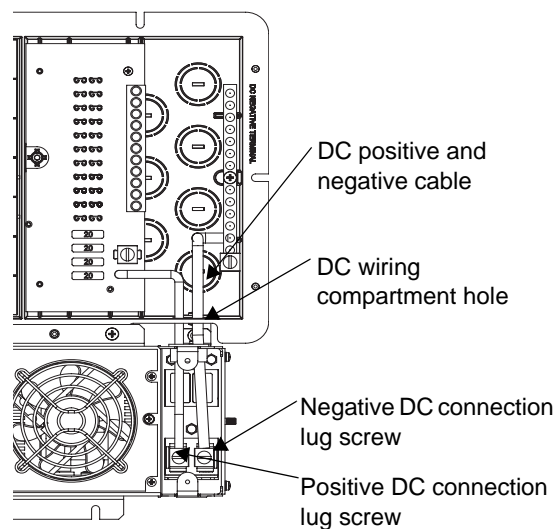

Figure 15 Connecting Panel to XADC DC Side
2. Loosen the positive and negative screws on the DC connection lugs (see Figure 15).